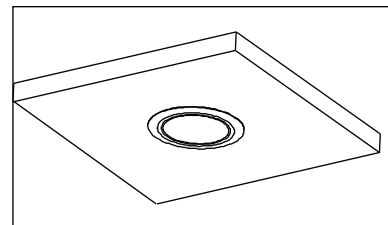

Figure 7 / Figura 7 / Schéma 7
7. Turn the power back on. If the module doesn't illuminate within 5 seconds, turn power off, carefully remove the module and double check all wiring and replace. (Figure 7)